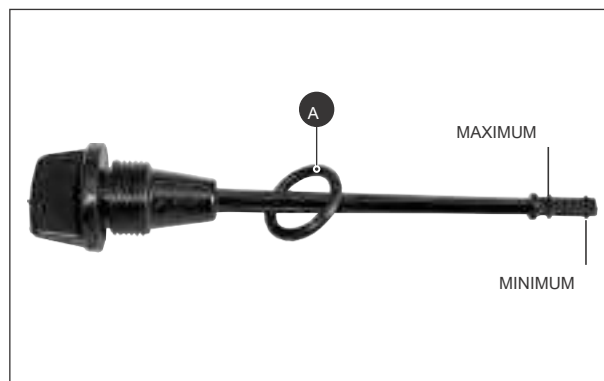

Fig. 2.30
- Check the oil level. The oil level should be between minimum and maximum levels. (Fig. 2.30)